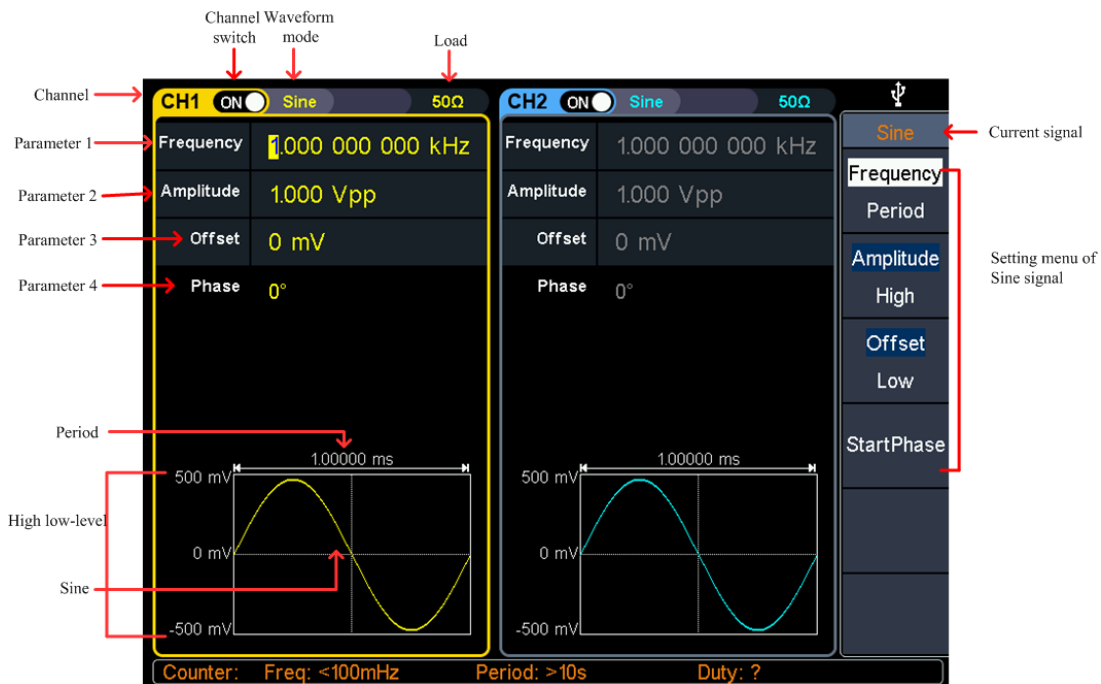

Figure 5-1: Sine wave user interface
Press the **Amplitude/High Level** softkey to confirm whether the **Amplitude** menu item is highlighted; if not, press the **Ampl/High** button to switch to **Amplitude**. In **parameter 2** of Figure 5-1, the parameter value of the amplitude appears as a blinking cursor. Use the **knob** or **numeric keypad** to set the desired value.
Press the **Offset/Low Level** softkey to confirm whether the **Offset** menu item is highlighted; if not, press the **Offset/Low level** key to switch to **Offset**. In **parameter 3** of Figure 5-1, the parameter value of the offset appears as a blinking cursor. Use the **knob** or **numeric keypad** to set the desired value.
Press the **Amplitude/High level** button to confirm whether the “High level” menu item is highlighted; if not, press the **Ampl/High level** button to switch to “High level.” In **parameter 2** of Figure 5-1, a high-level parameter value appears as a blinking cursor. Use the **knob** or **numeric keypad** to set the desired value.
**parameter 3** of Figure 5-1, a low-level parameter value appears as a blinking cursor. Use the **knob** or **numeric keypad** to set the desired value.
Press the **Start Phase** softkey to confirm whether the **Start Phase** menu item is highlighted; if not, press the **Start Phase** key. In **parameter 4** of Figure 5-1, the parameter value of the starting phase appears as a blinking cursor. Use the **knob** or **numeric keypad** to set the desired value